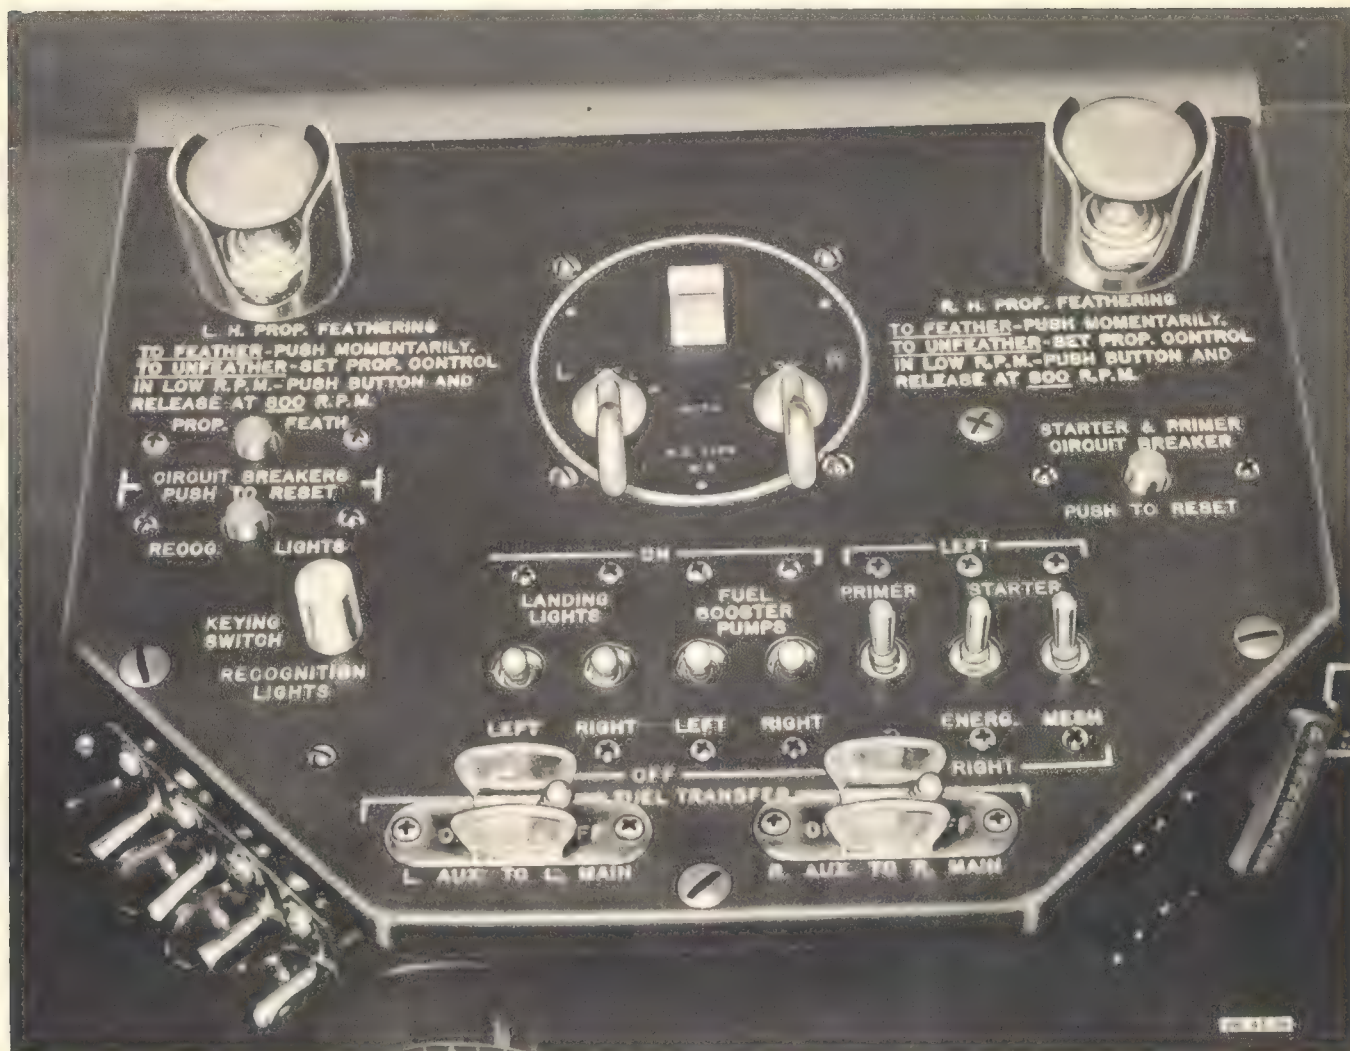

Figure 26—Control Pedestal Switch Panel
(11) Turn "ON" the fuel booster pump switches, located on the control pedestal switch panel (*see figure 26*). Check the fuel pressure gage for 4 to 5 lbs./sq.in. pressure.
(12) Turn "ON" the ignition safety switch, located on the pilot's control pedestal.
(13) Turn the ignition switch for the engine to be started first to the "BOTH" position.
(14) Press starter energizing switch on control pedestal switch panel to "LEFT" or "RIGHT," depending on which engine is being started first, and hold in place for a maximum of 10 seconds when using an external power source (battery cart), or 20 seconds when using the airplane's batteries.